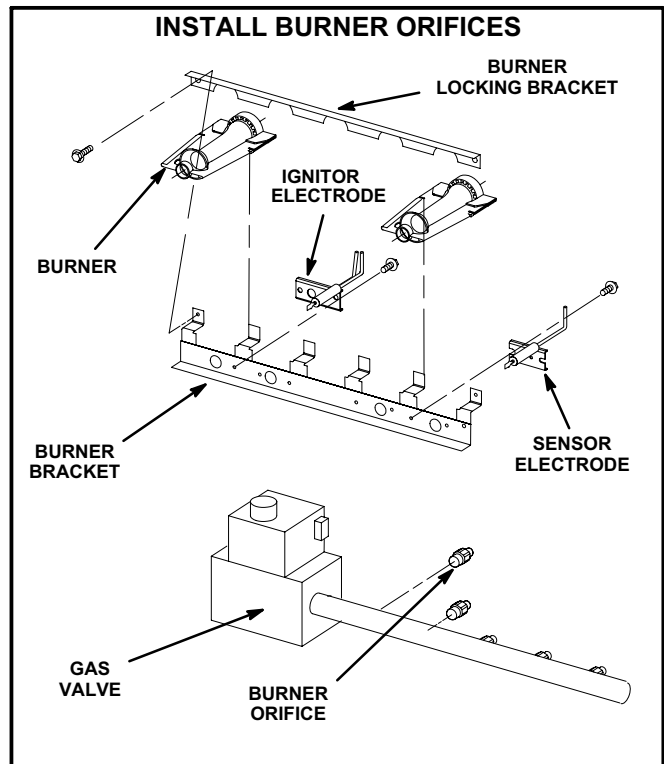

FIGURE 1
- 4 - Remove existing burner orifices. Apply pipe thread compound to threads of orifices provided in kit. Install orifices in manifold. See figure 1.